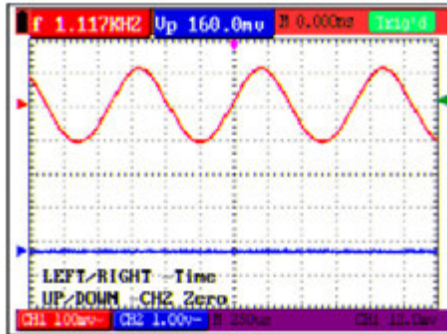

Figure 7.- Zero point position of channel 2.
7. Again, press “OSC OPTION” key and the following appears at the bottom left side of the screen, shown as the following figure 7.